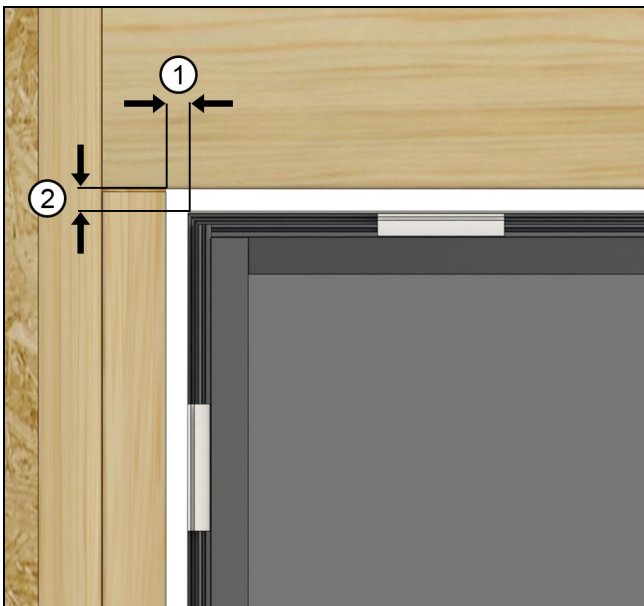

Figure 1 RO Width and Height clearance
1. Rough opening (RO) width may be up to 1 1/2" (38) wider (3/4" maximum on each side) than the outside measurement (OM) of the frame. The RO height may be a maximum of 3/4" taller than the OM of the frame. See Figure 1.
**NOTE:** Rough opening (RO) width may be up to 1 1/2" (38) wider (3/4" on each side) than the outside measurement (OM) of the frame. The RO height may be up to 1 1/2" taller than the OM of the frame. See Figure 1.